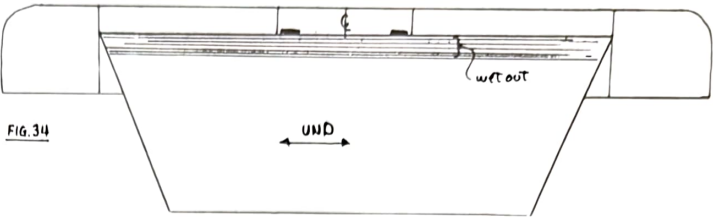

FIG. 34
Apply a brush coat of epoxy to the spar cap trough. Lay the long edge of the spar cap ply straight along the forward edge of the spar trough. Wet out the cloth over the trough (Fig. 34). Fold the cloth over and wet out the cloth over the trough again (Fig. 35). Now, use a new, sharp, single-edge razor to slice through the fine cross fibers at the fold so that the cloth lays flat (Fig. 36). Don't gouge the blade in deep. A light pass right at the surface is all that's required. Keep folding, wetting, squeegeeing, and slicing until the spar cap is thirteen (13) full-width plies at the center, using as much of the second piece of UND as is necessary. Trim any excess and discard (Fig. 37).